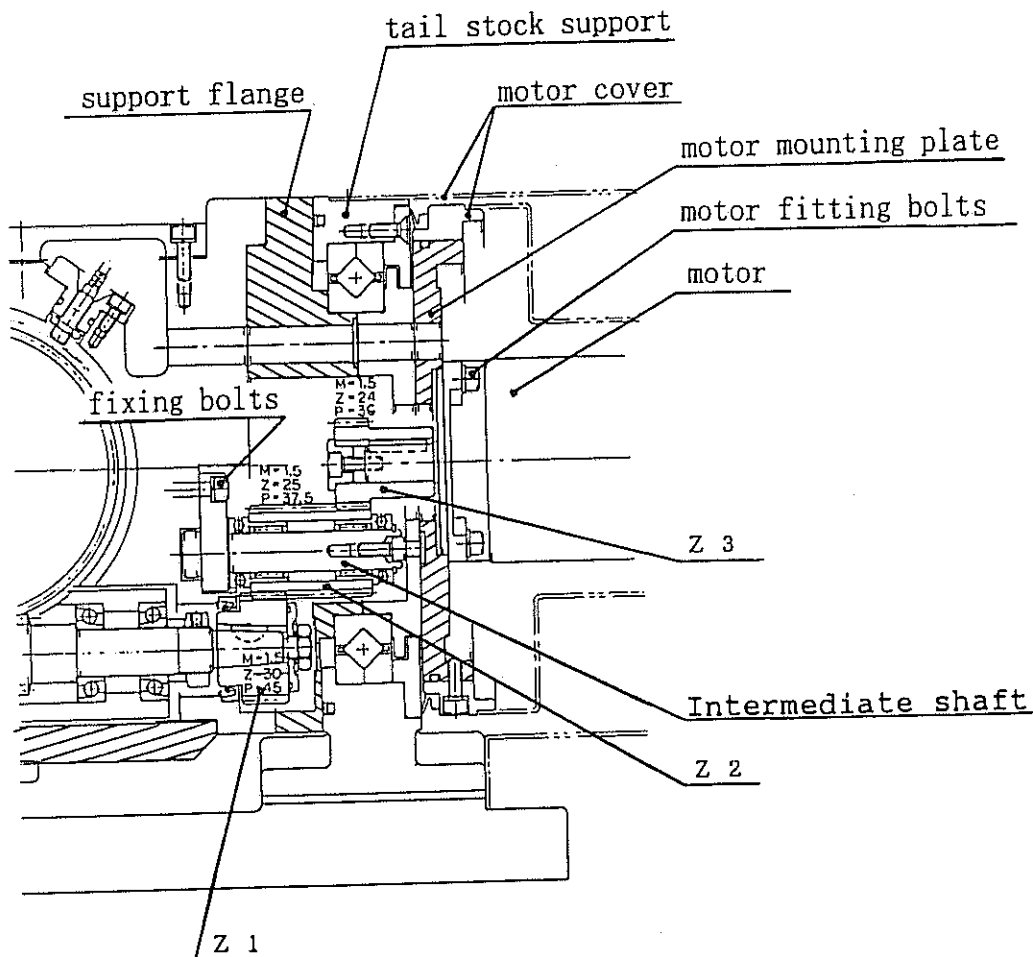

Fig.5 Backlash adjustment of gears in gear box
- 1) Please see Fig.5 for the locations of Hydraulic connections. The ports have PT3/8 female threads.